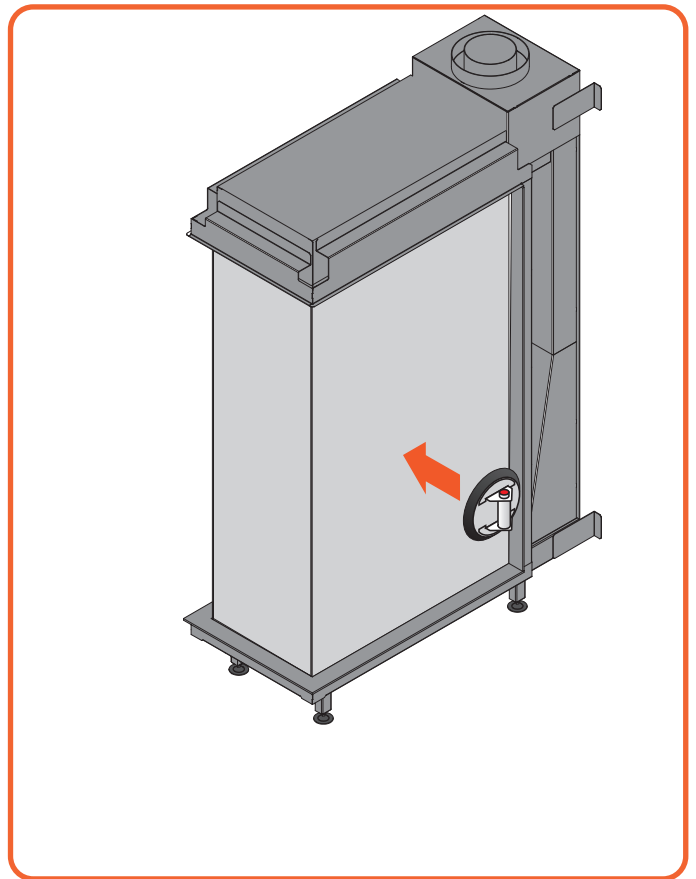

Figure 11.7 - Put on suction cups
- Put the section cup on the glass and make sure it is properly vacuumed, so it will not come off. (See **Figure 11.7**)